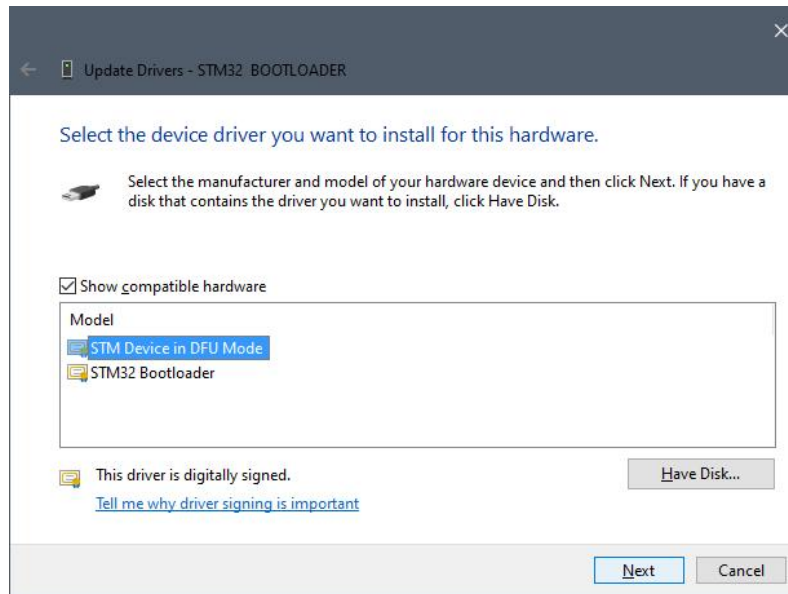

Figure 32: *Selecting the correct driver for the MiniTracker 4™.*
8. A list of compatible hardware will be displayed in the next dialog as shown in Figure 32. Select "STM Device in DFU Mode", then click "Next".